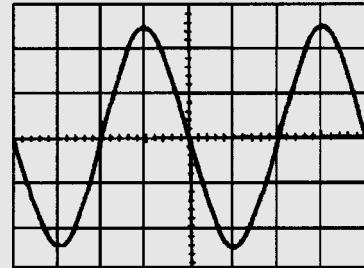

Figure RT3.1
1. A conductor, 25 cm long is situated at right angles to a magnetic field. Determine the strength of the magnetic field if a current of 12 A in the conductor produces a force on it of 4.5 N. (3)
2. An electron in a television tube has a charge of 1.5×10^{-19} C and travels at 3×10^7 m/s perpendicular to a field of flux density $20 \mu\text{T}$. Calculate the force exerted on the electron in the field. (3)
3. A lorry is travelling at 100 km/h. Assuming the vertical component of the earth's magnetic field is $40 \mu\text{T}$ and the back axle of the lorry is 1.98 m, find the e.m.f. generated in the axle due to motion. (4)
4. An e.m.f. of 2.5 kV is induced in a coil when a current of 2 A collapses to zero in 5 ms. Calculate the inductance of the coil. (4)
5. Two coils, P and Q , have a mutual inductance of 100 mH. If a current of 3 A in coil P is reversed in 20 ms, determine (a) the average e.m.f. induced in coil Q , and (b) the flux change linked with coil Q if it is wound with 200 turns. (5)
6. A moving coil instrument gives a f.s.d. when the current is 50 mA and has a resistance of 40Ω . Determine the value of resistance required to enable the instrument to be used (a) as a 0–5 A ammeter, and (b) as a 0–200 V voltmeter. State the mode of connection in each case. (8)
7. An amplifier has a gain of 20 dB. Its input power is 5 mW. Calculate its output power. (3)
8. A sinusoidal voltage trace displayed on an oscilloscope is shown in Fig. RT3.1; the 'time/cm' switch is on 50 ms and the 'volts/cm' switch is on 2 V/cm. Determine for the waveform (a) the frequency (b) the peak-to-peak voltage (c) the amplitude (d) the r.m.s. value. (7)
9. With reference to a p-n junction, briefly explain the following terms: (a) majority carriers (b) contact potential (c) depletion layer (d) forward bias (e) reverse bias (10)
10. Briefly describe each of the following, drawing their circuit diagram symbol and stating typical applications: (a) zenor diode (b) silicon controlled rectifier (c) light emitting diode (d) varactor diode (e) Schottky diode (20)